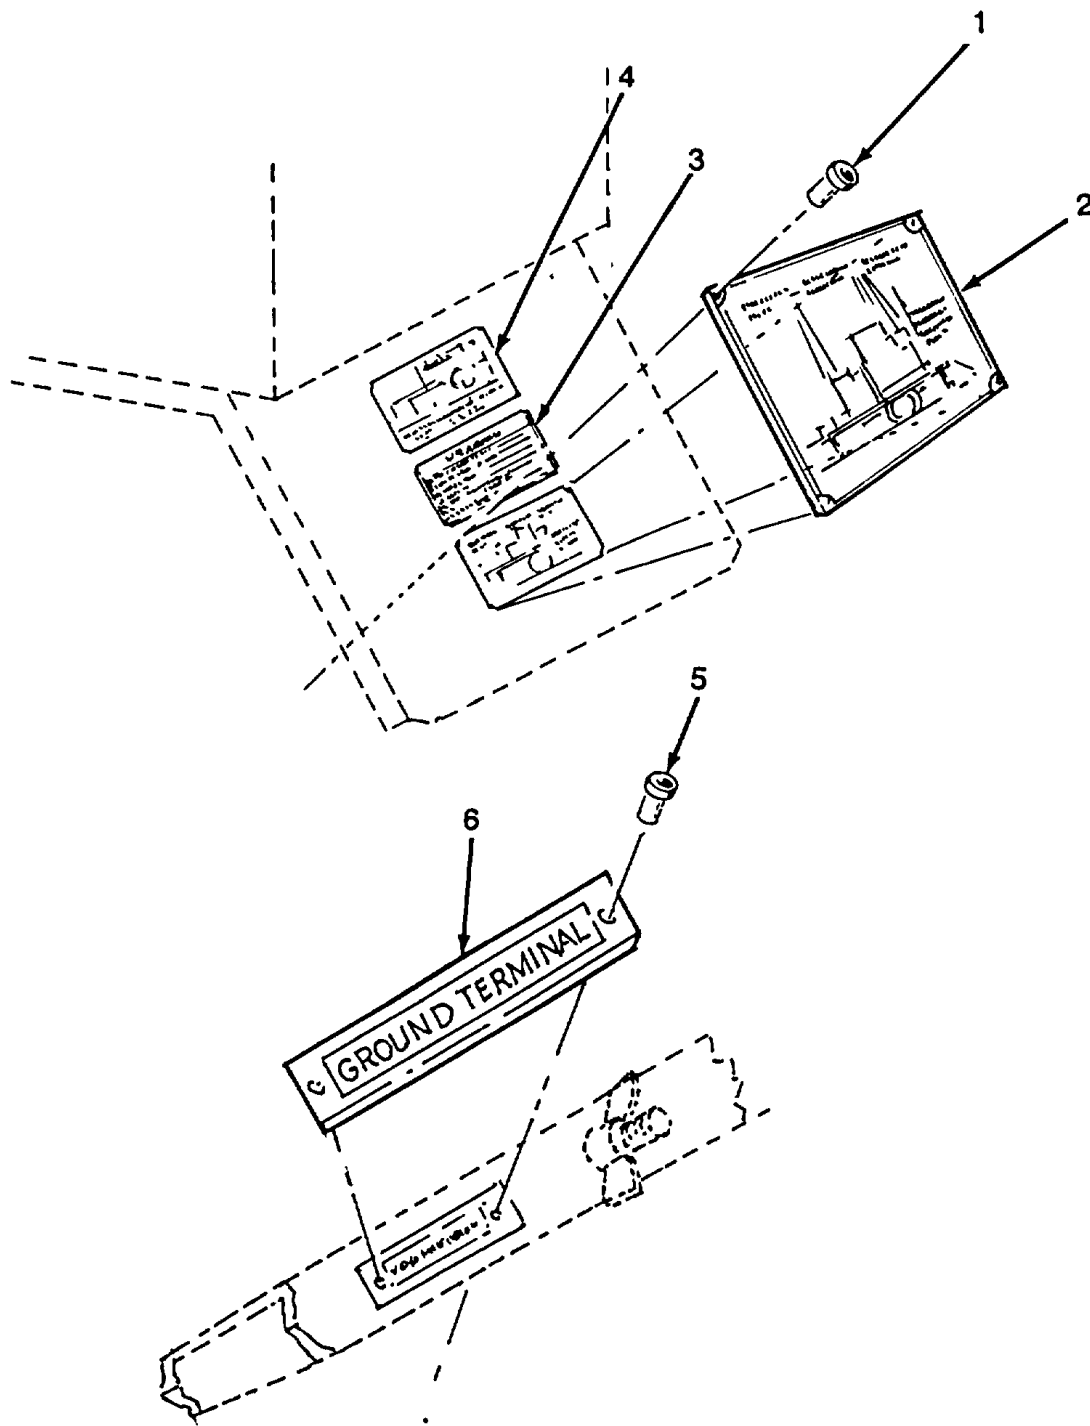

Figure 4-18. Plates, Data.
**4-27. PLATES, DATA (Figure 4-18).**